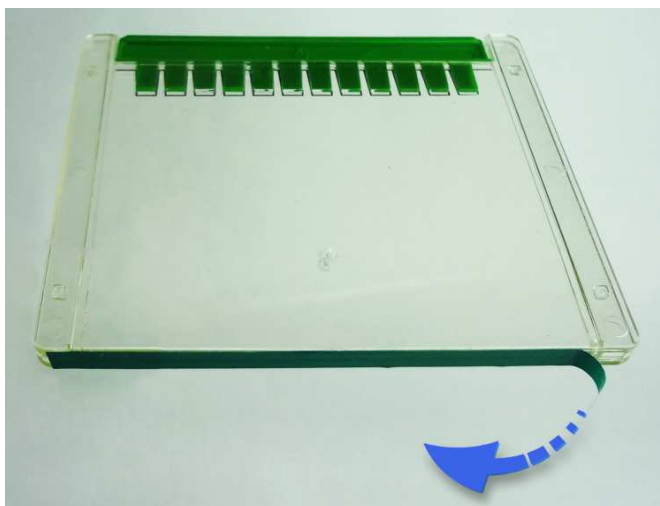

Figure 1. Peel the tape off from the bottom of the cassette
2. Remove SurePAGE, Bis-Tris, 10x8 gel from the package, peel off the sealing tape at the bottom of the gel cassette (see Figure 1).